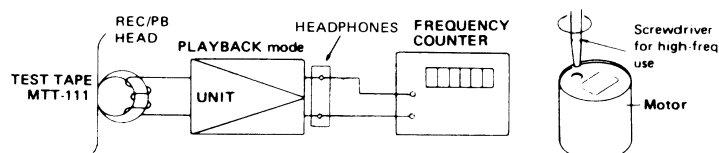

Figure 5-3
- 1) Make a connection of instruments as shown in Figure 5-3.